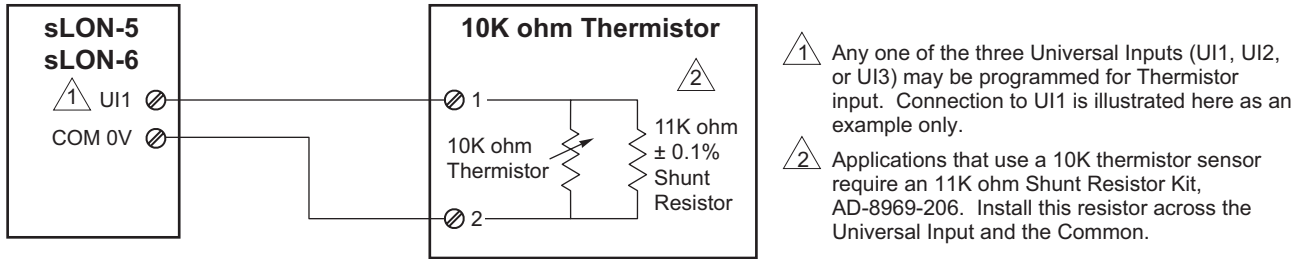

Figure-9 Typical Wiring for 10K Thermistor with 11K Shunt Resistor.
1. 10K ohm Thermistor with 11K ohm Shunt Resistor (refer to Figure-9).
Make the Thermistor connections according to the diagram in Figure-9.